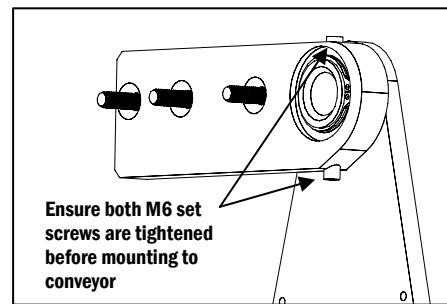

Figure 4
b. Ensure that the two M6 Socket Head Set Screws on the top and bottom of the Mounting Plate are securely tightened so that Rotate Plate does not move during mounting and handling (**Figure 4**).